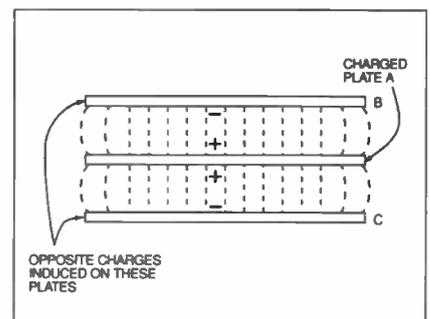

Fig.8. Faraday's capacitor experiment.
In his own words: "The question may be given thus: suppose an electrified plate of metal (A) is suspended in air, and B and C two exactly similar plates are placed parallel to and on each side of A at equal distance and insulated, A will then induce equally towards B and C, that is, equal charges will appear on these plates". His experiment is illustrated in Fig.8.